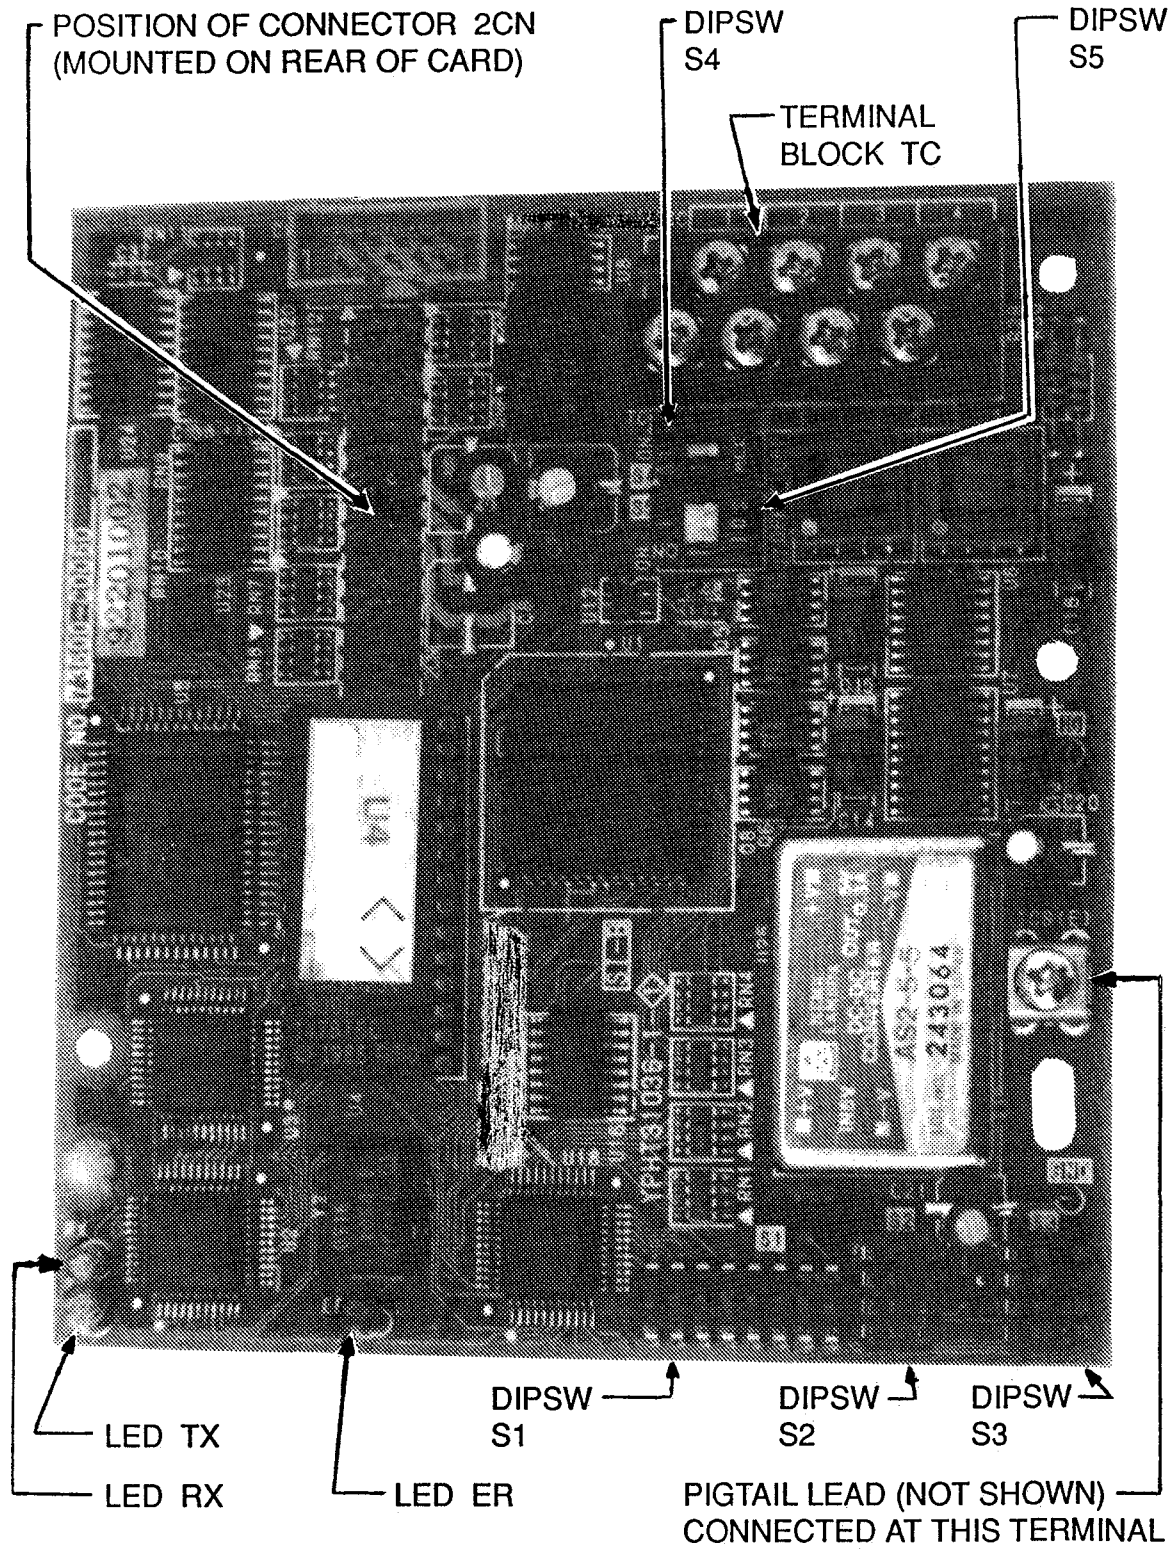

Figure 2. SCB Serial Communications Interface Card
Step 3. Installation of SCB Card. Orient the SCB card as shown in Figure 2. Position connector 2CN (on the back side of the card) to mate with matching connector 2CN on the Control PCB, also aligning the three holes on the right side of the SCB with the tips of plastic standoffs present on the Control PCB. Press carefully until firmly seated.